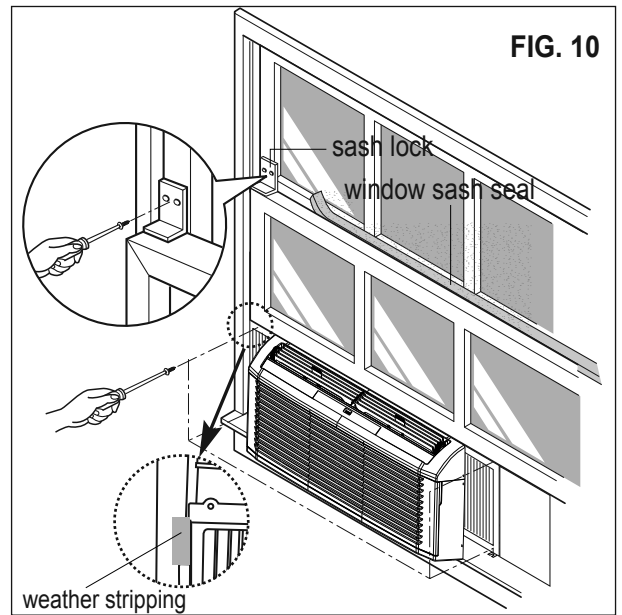

FIG. 10
Expand the filler panels and secure them using 4 screws as shown in FIG.10. When filler panels opens or closes, you may feel a slight resistance. This is normal.
- \* Cut the window sash seal to the window width. Stuff the window sash seal between the glass and the window to prevent air and insects from getting into the room, as shown in FIG.10.
- \* In order to minimize air leaks between the room air conditioner and the window opening, suitable weather stripping(trim the provided weather stripping into suitable size) should be applied in case of any gaps found at the location as indicated by the arrows in Fig. 10.
- \* Install the sash lock bracket using 2 screws to prevent window from being raised which may result in unit falling as shown in FIG.10.